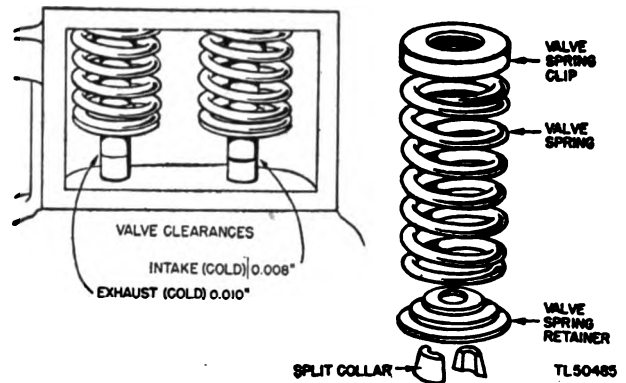

Figure 52. Valve adjustment on Briggs and Stratton engine.
c. BRIGGS AND STRATTON ENGINE, MODEL AP, TYPE No. 208286. (1) *Checking clearance* (fig. 52). To check the valve clearance, remove the carburetor and valve cover plate. The clearances are measured by inserting feeler gauges between the valve stem and tappet. The correct measurement is made when the feeler will fit snugly but not tightly. The correct valve clearances for this engine when it is cold are: exhaust valve, 0.010 inch; intake valve, 0.008 inch. Valve clearance is adjusted by grinding required amount from the end of the valve stem. The end of the stem must be square with the stem proper.